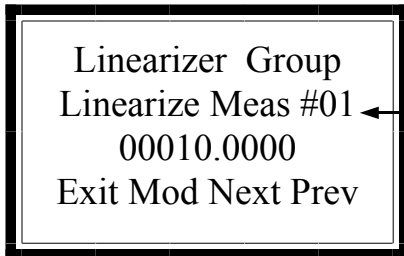

Figure 11f: Selecting the Register.
8) Select the desired Register by pressing the Next / Prev keys. See Figure 11f. Once the desired Register is selected press the MODify key to change the value.